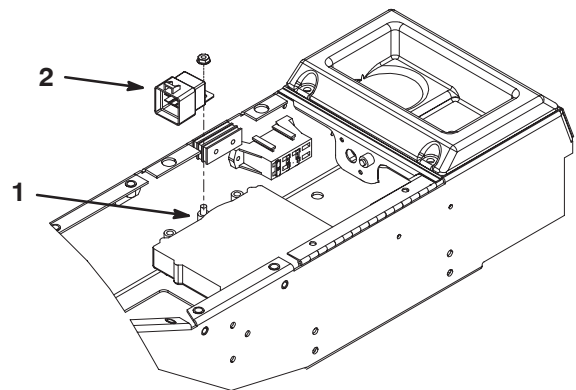

Figure 2
1. Remove the center nut securing the electronic controller to the machine (Fig. 2).
2. Mount the brake light relay to the controller with the nut removed. Position the relay as shown in figure 2.
10. Route the wire harness to the brake light relay (Fig. 2).